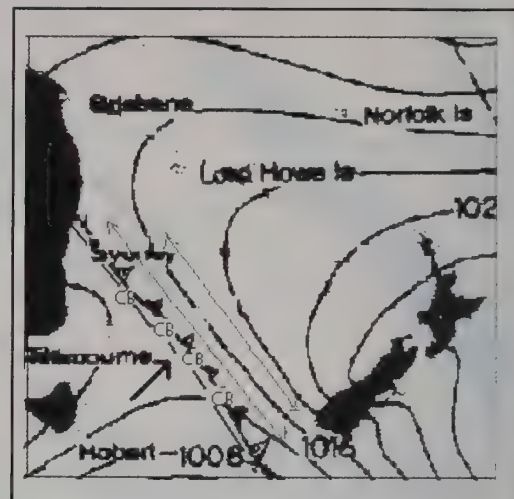

Figure 4. Here is a typical map for New Zealand showing the warm winds. The double-arrow lines are the lines of propagation.
**Mode 5:** Ducts traveling in the warm winds ahead of a cold front in the southern Tasman Sea are shown by double-arrow lines in figure 4. Signals can be extremely strong, to the point where we refer to these as pipelines to VK2 from Christchurch. For the Northern Hemisphere they are in the warm southwest winds and can be confused with jet-stream winds.